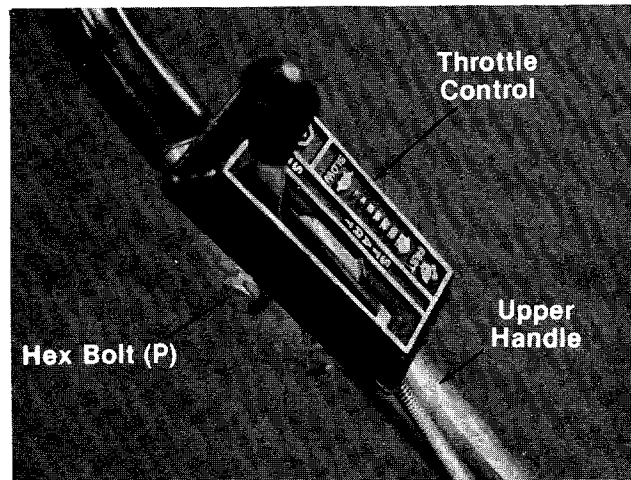

FIGURE 10.
- ← 4. Place the throttle control in position on **right** side of upper handle. Secure with hex bolt (P) and lock nut (Q). See figure 10.